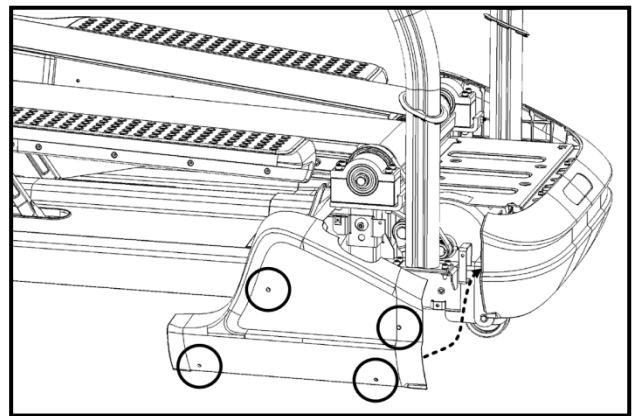

Fig. 25
23. Mount the left & right corner shrouds (Fig. 25) and secure them in place by installing the corresponding four Phillips head screws to each shroud at the circled locations.